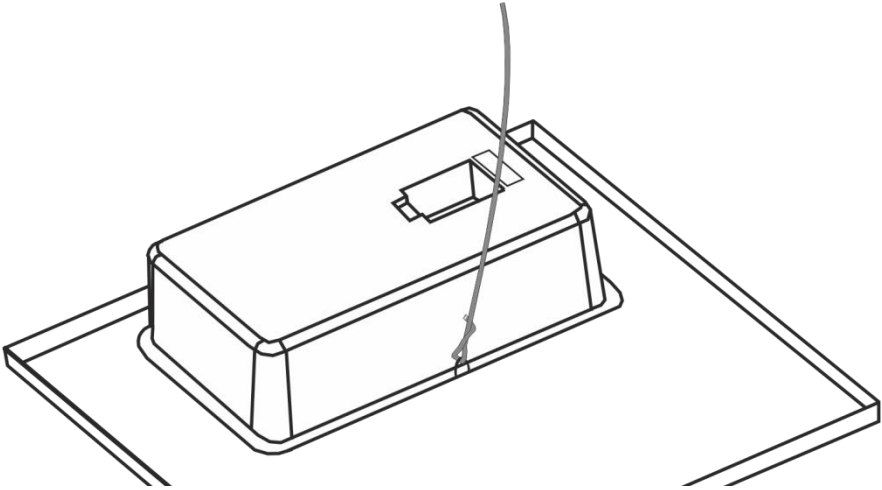

Figure 10: Securing the Speaker to a Ceiling Anchor Point
2. Secure the speaker by connecting the speaker support ring to an independent secure ceiling anchor point (see Figure 10) as appropriate. The anchor prevents the speaker from falling if the tile itself comes out or falls apart.